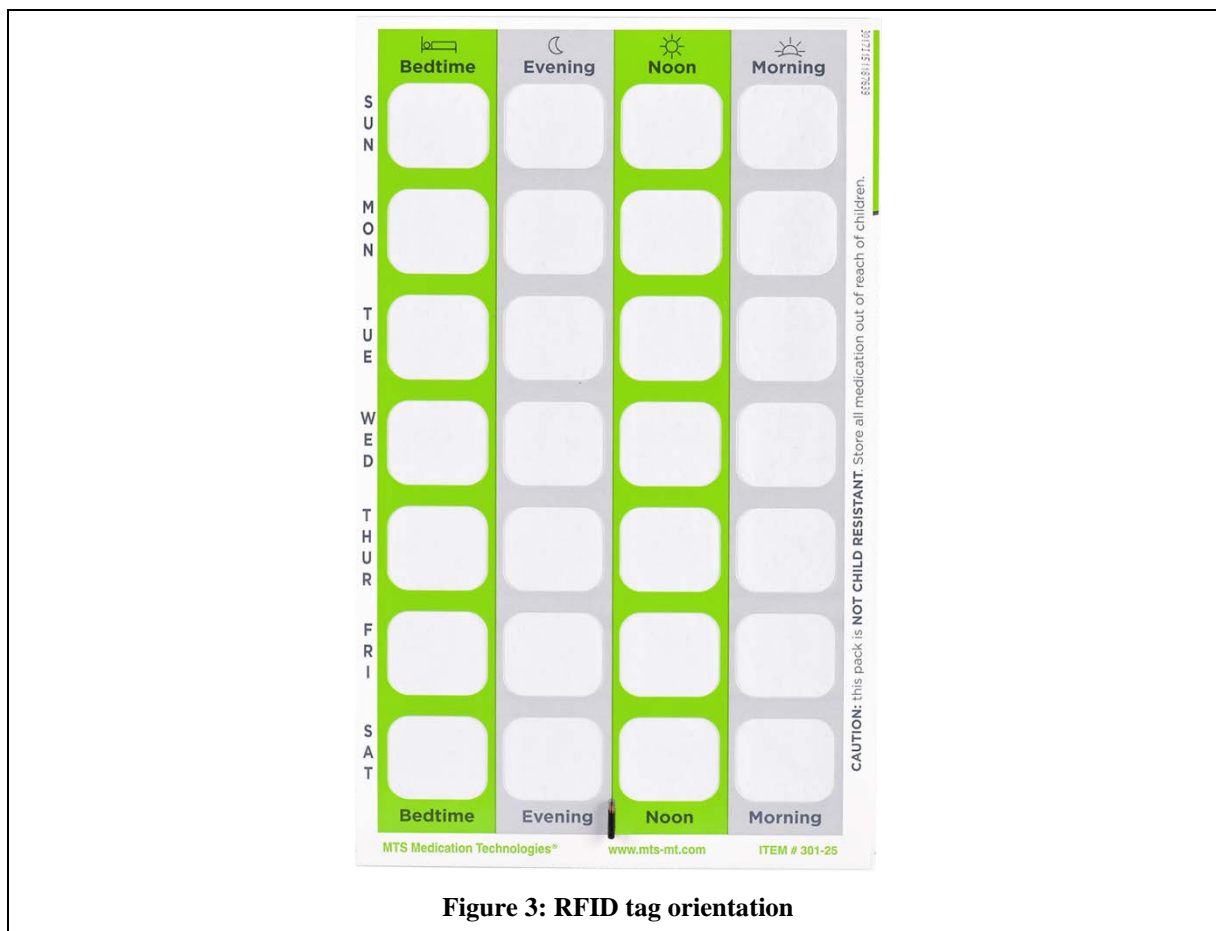

Figure 3: RFID tag orientation
2. The RFID tag orientation needs to be changed to allow the reader to read the tag information. See orientation shown in Figure 3: